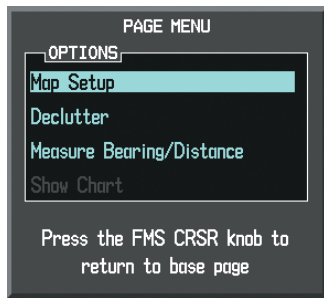

Figure 6-70 Navigation Map Page Menu
- 4) Turn the small **FMS** Knob to select the 'Map' Group and press the **ENT** Key (Figure 6-70).